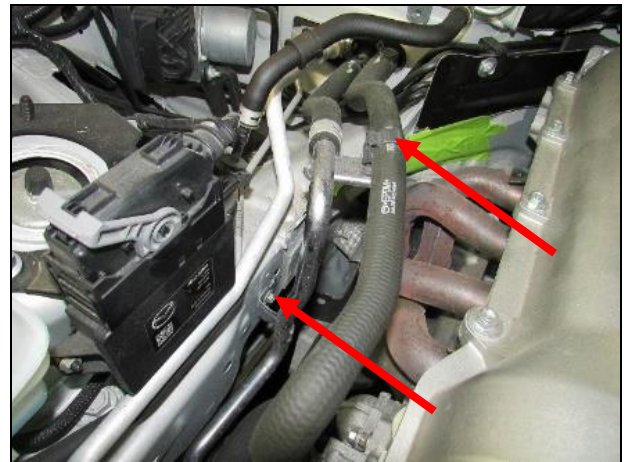

Figure 16
- From the top of the engine bay, slide the heater hose back on the bracket and connect the clamp. Reinstall the (x1) 10mm bolt head to the heater hose bracket (**Figure 16**).